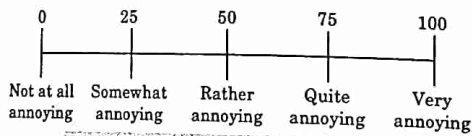

Fig. 5.12.1. Noise annoyance rating scale.
6. The annoyance is assessed using the noise annoyance rating scale as shown in Fig. 5.12.1.